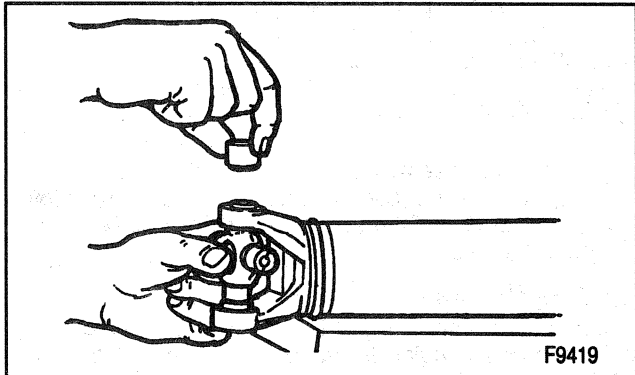

Figure 17—Aligning the Trunnion Between the Bearing Cups
- Make sure that the trunnions are started straight and true into both bearing cups (Figure 17).
- With the trunnion seated in the bearing cup press the bearing cup into the yoke until it is flush with the yoke ear (Figure 17).